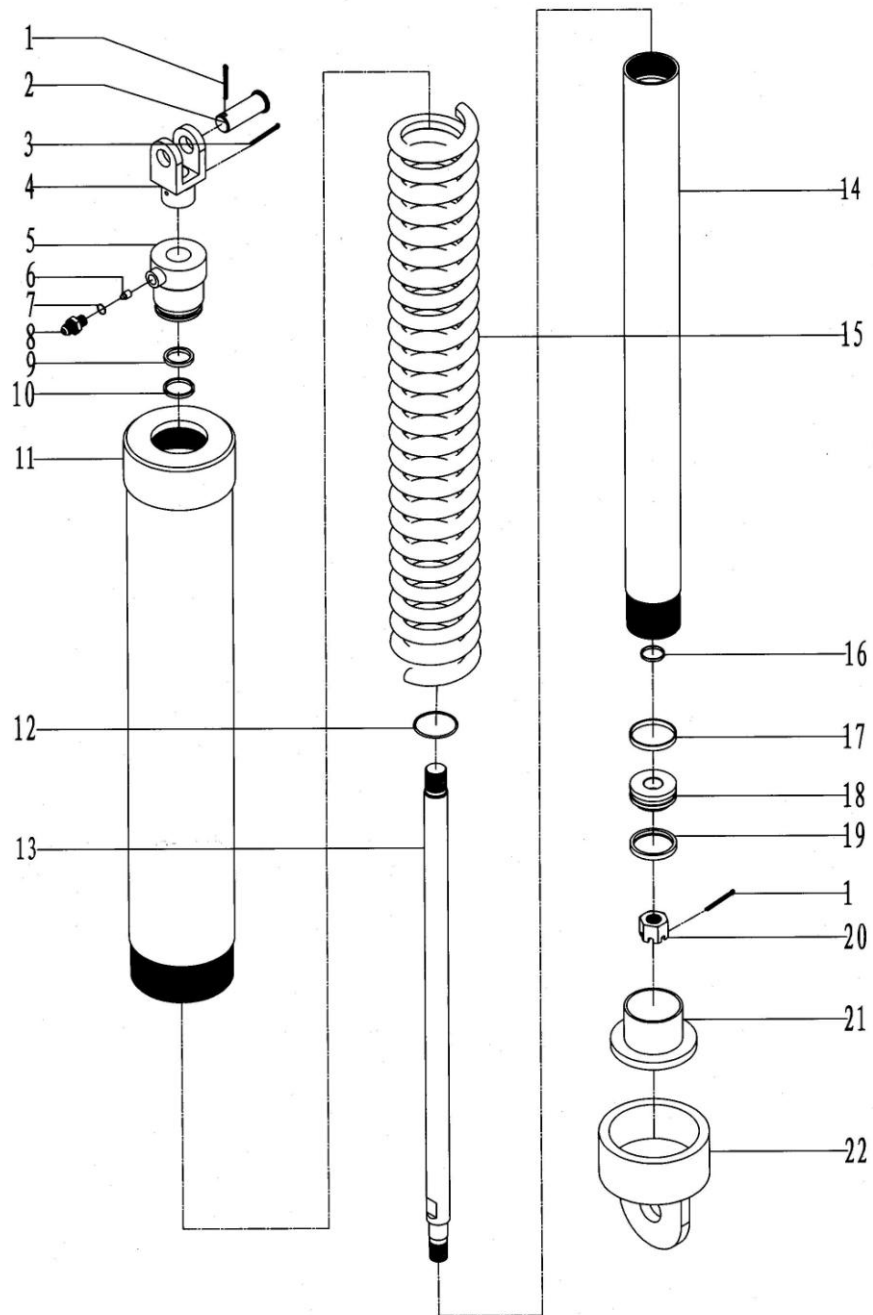

Fig. 7-23
23. Hydraulic lift cylinder assembly (Fig 7-23, Table 23)